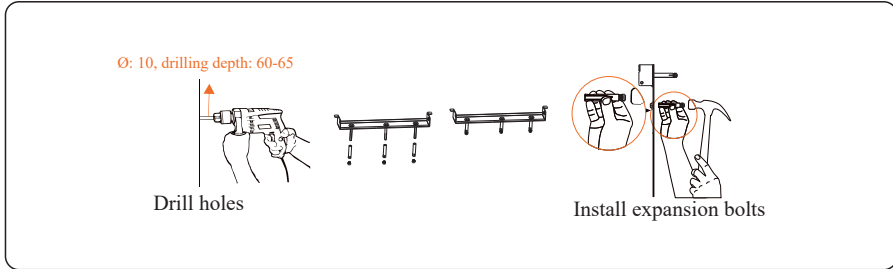

Figure 4.11 Punch holes and install expansion (unit: mm)
Step 4 Drill holes using a hammer drill and install expansion bolts, as shown in Figure 4.11.